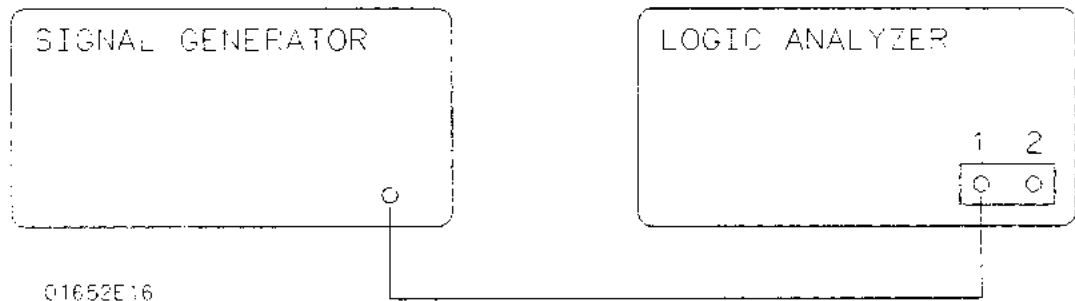

Figure 3-62. Setup for Trigger Sensitivity
1. Use the Type N-to-BNC adapter to connect the signal generator to channel 1 of the HP 1652B/1653B as in figure 3-62.